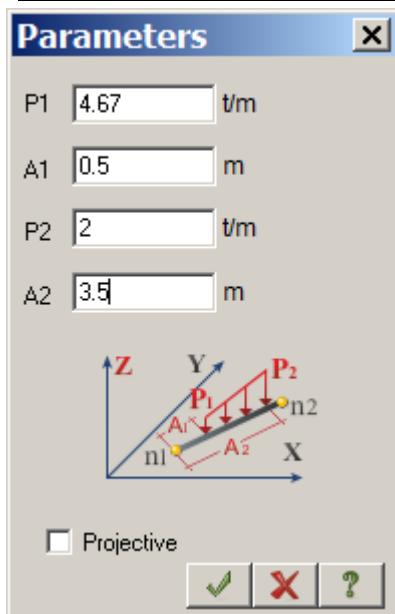

Figure 1.15 Load parameters dialog box (trapezoidal load)
- ⇒ In the **Load parameters** dialog box, specify the following data:  $P1 = 4.67 \text{ t/m}$ ,  $A1 = 0.5 \text{ m}$ ,  $P2 = 2.0 \text{ t/m}$ ,  $A2 = 3.5 \text{ m}$  (see Fig.1.15).